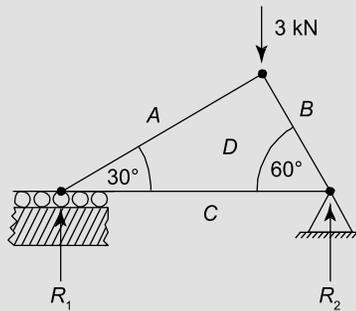

Figure 6.8
**Problem 5.** Determine the internal forces that occur in the plane pin-jointed truss of Figure 6.8, due to the externally applied vertical load of 3 kN.
Firstly, we will fill the spaces between the forces with upper case letters of the alphabet, as shown in Figure 6.8. It should be noted that the only reactions are the vertical reactions  $R_1$  and  $R_2$ ; this is because the only externally applied load is the vertical load of 3 kN, and there is no external horizontal load. The capital letters  $A$ ,  $B$ ,  $C$  and  $D$  can be used to represent the forces between them, providing they are taken in a clockwise direction about each joint. Thus the letters  $AB$  represent the vertical load of 3 kN. Now as this load acts vertically downwards, it can be represented by a vector  $ab$ , where the magnitude of  $ab$  is 3 kN and it points in the direction from  $a$  to  $b$ . As  $ab$  is a vector, it will have a direction as well as a magnitude. Thus  $ab$  will point downwards from  $a$  to  $b$  as the 3 kN load acts downwards.